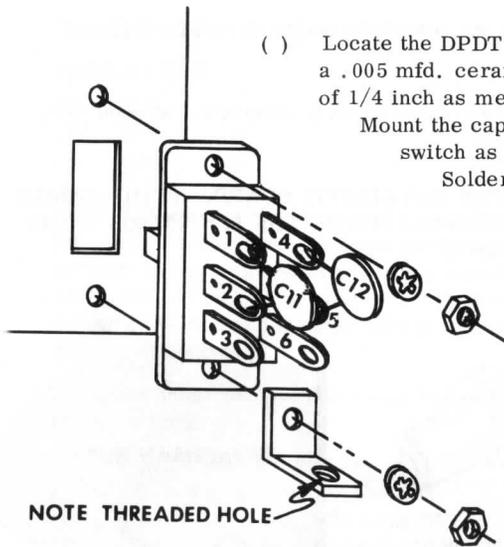

Figure 5 -
- ( ) Locate the DPDT slide switch S1. Cut both leads of a .005 mfd. ceramic disk capacitor (C11) to a length of 1/4 inch as measured from the body of the part. Mount the capacitor between lugs #1 and #2 of the switch as shown in detail drawing figure 5. Solder the connection at lug #2 ONLY.
- ( ) Using two 4-40 X 1/4 inch machine screws, two lockwashers, two 4-40 nuts and one "L" bracket mount the slide switch S1 as shown in detail figure 5.